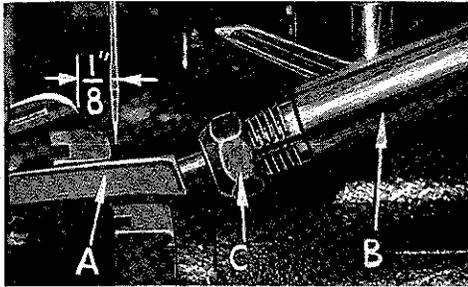
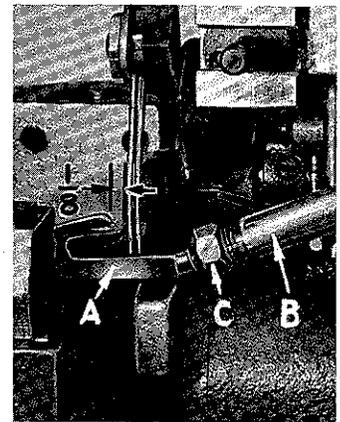

Fig. 5
Fig. 5A
At this point, insert lower looper (A, Fig. 5) for Style 39500 JK or lower spreader (A, Fig. 5A) for Style 39500 JL, into bar (B). With lower looper or spreader at the left end of its stroke, set looper point $1/8$ inch from center of needle (Fig. 5) or set lower spreader $1/8$ inch to the left of the center-line of left needle (Fig. 5A), using looper gauge No. 21225 G- $1/8$. Do not have lower looper or spreader deflecting needle. Tighten nut (C). Now assemble differential (front) feed dog.